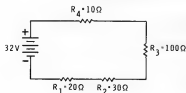

Figure 1-95
25. What is the current of the circuit shown in Figure 1-95?
26. What is the voltage drop across R_3 of Figure 1-95?